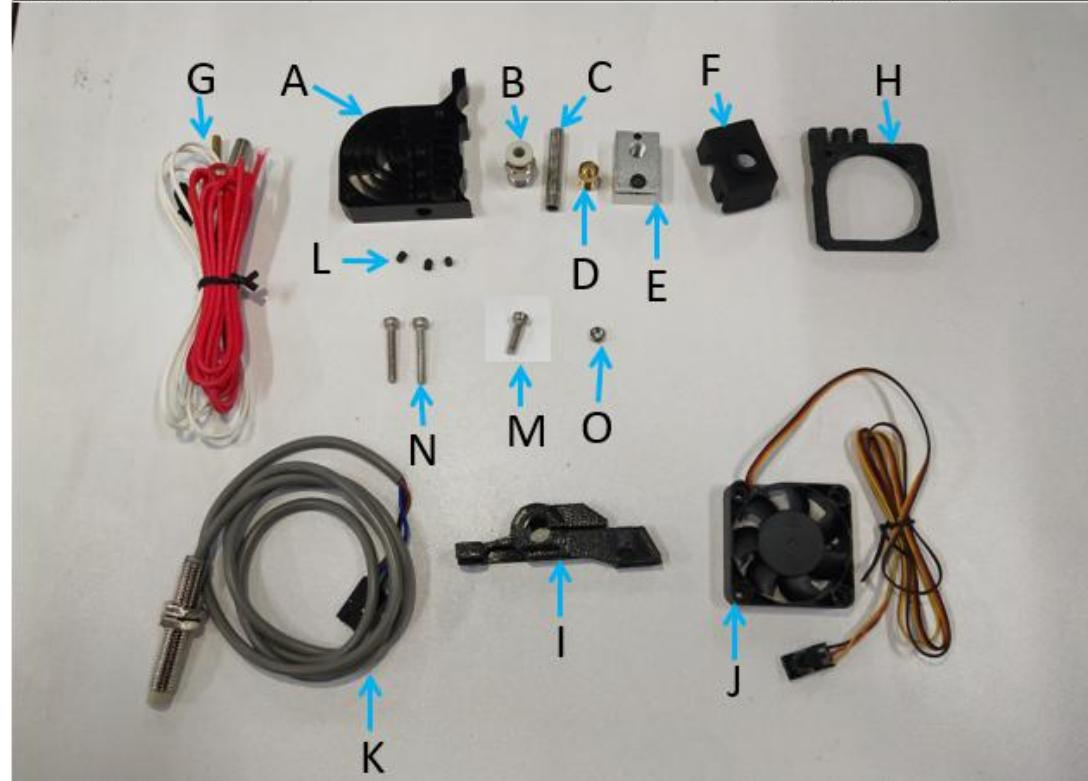

Figure 2.12.1
**Step 2-12-1:** As shown in Figure 2.12.1, prepare the materials and check whether the quantity of materials is correct, and prepare for the next installation.